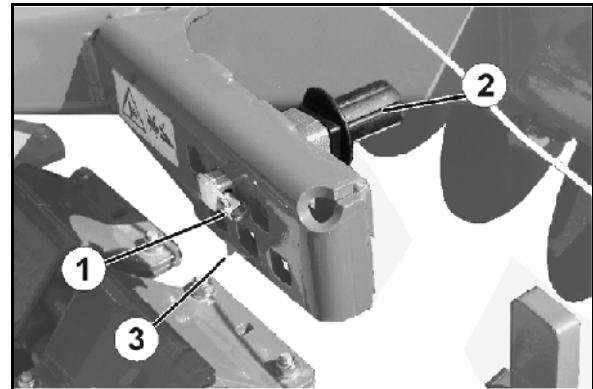

Fig. 38
6 insertion holes are available for this purpose. (Fig. 38).
3. Release clip pins (Fig. 38/1).
4. Insert eccentric pins (Fig. 38/2) into the desired insertion hole.
- A preferential insertion hole is marked with an arrow (Fig. 38/3).